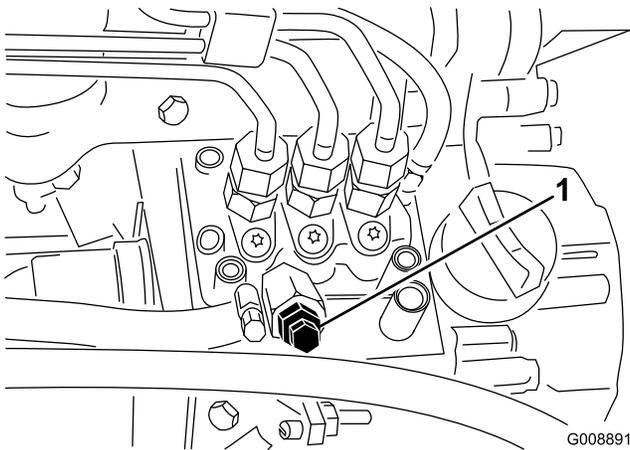

Figure 25
3. Open the air bleed screw on the fuel injection pump (Figure 25).